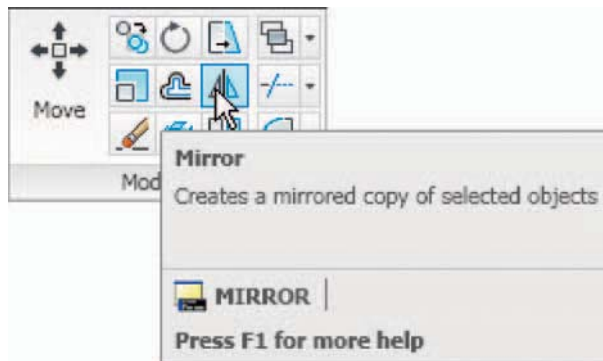

Fig. 5.8 The Mirror tool from the Modify toolbar
2. Call the **Mirror** tool – left-click on its tool icon in the **Home/Modify** panel (Fig. 5.8), pick **Mirror** from the **Modify** toolbar or from the **Modify** drop-down menu, or enter **mi** or **mirror** at the command line. The command line shows: